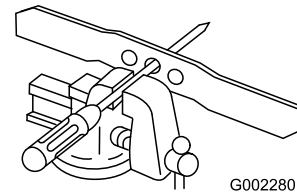

Figure 28
1. Check the balance of the blade by placing the center hole of the blade over a nail or screwdriver shank clamped horizontally in a vise (Figure 28).